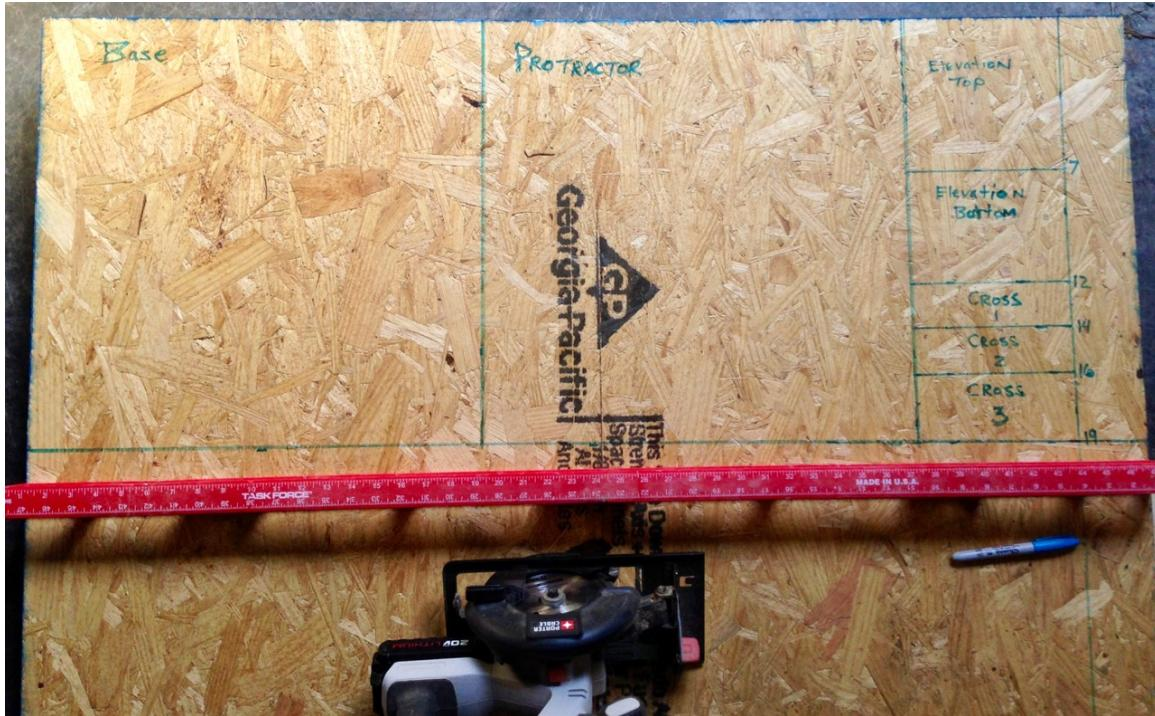

Figure 3: This figure is a zoom in on the lines to be drawn before cutting the sheet with a circular saw. The red ruler is 48 inches long.
5. Draw lines to connect the edge marks. The shortest segment will be 3-inches wide. See **Figures 3 and 4**.